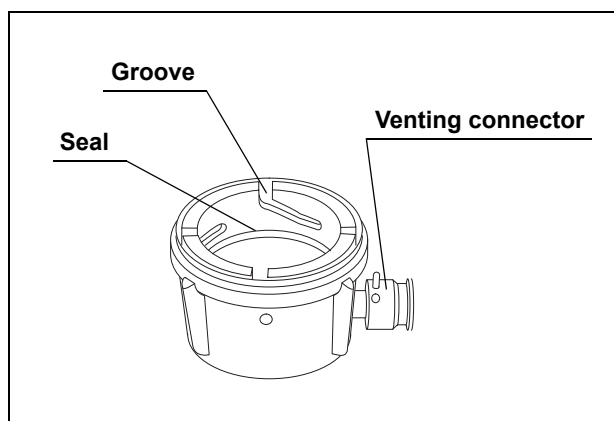

Figure 7.2
The two water-resistant caps are attached to the videoscope cable connector and the ultrasonic cable connector on the endoscope to protect the connectors from water penetration during reprocessing. For leakage testing, the venting connector on the water-resistant cap must be connected to the leakage tester (MB-155) (see Figure 7.2).
1. Confirm that the inside of the water-resistant caps is dry and free from debris (see Figure 7.2 on page 90). Wipe with a dry cloth when the inside of the water-resistant cap is wet or debris is detected.